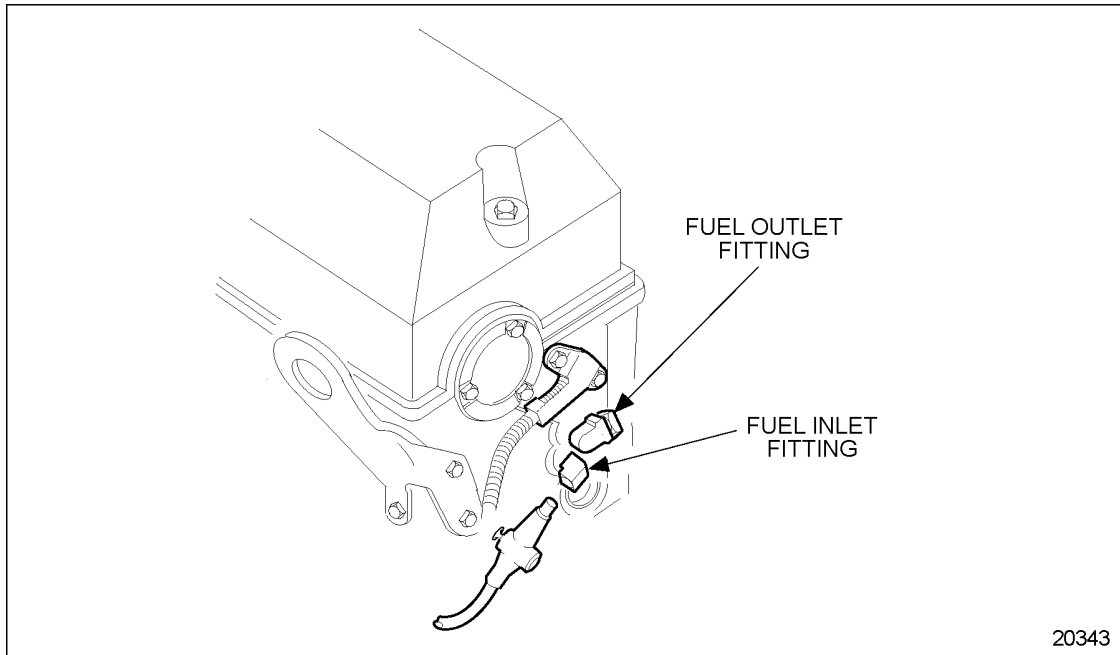

Figure 2-6 Cylinder Head Fuel Fitting Locations
4. Remove the inlet and outlet lines from the fittings at the rear of the cylinder head. Blow low pressure compressed air into the inlet fitting for 20 to 30 seconds or until all of the fuel is purged from the cylinder head. See Figure 2-6.